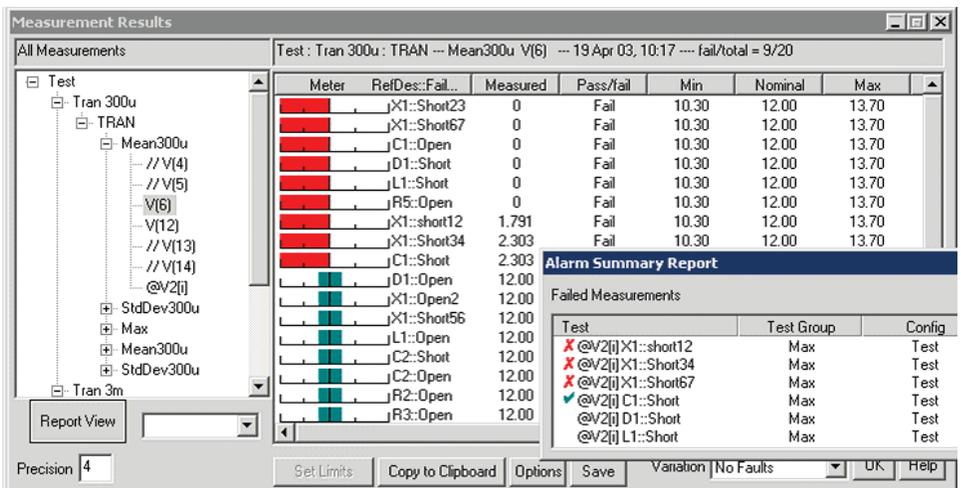

Figure 4: Fault dictionary for the first test eliminates all of the over-stressed failure modes using a short 300usec, safe to start test.
5. Embeds user-defined electrical measurements and simulation results in the design database (Figure 4).